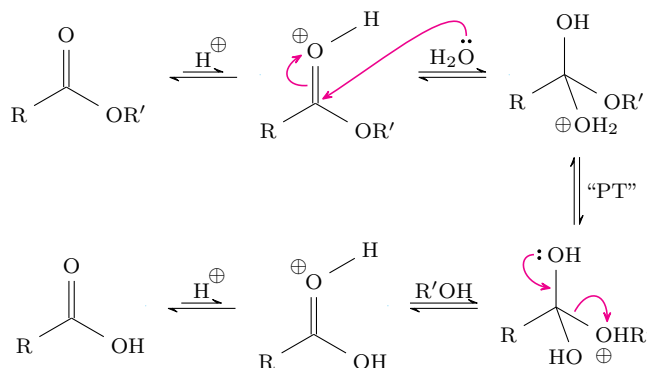

Figure 4.27: Ester hydrolysis mechanism (acid-catalyzed).
- Observe that analogously to Figure 4.27, we have only drawn *negatively* charged intermediates.
- Mostly the same as Figure 4.27.
- Once we protonate/activate the carbonyl, the rest of the mechanism is analogous to Figure 4.27.